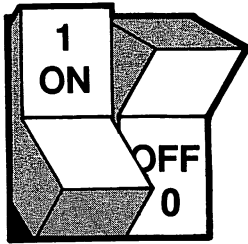

Figure 2-1 Switch representation — binary “1” and “0”
It is also convenient to think of each bit location in magnetic storage or electrical circuitry as if it were a switch. Figure 2-1 shows two such figurative switches, one "ON" (1), the other "OFF" (0). Figure 2-2 shows the switch configuration representing an "A". Figure 2-3 shows, without the switch representation, the bit pattern for a "D".